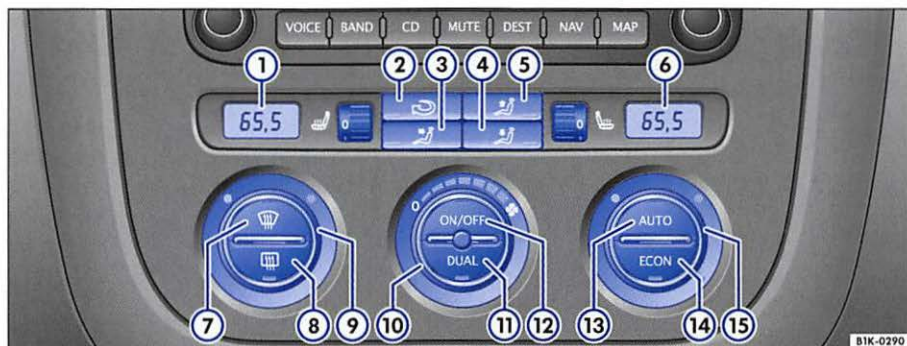

Fig. 78 In the center console: Climatronic controls
– Press one of the buttons $\Rightarrow$ fig. 78 (3) to (5), or turn the fan control (10). The light in the **AUTO** button will go out.